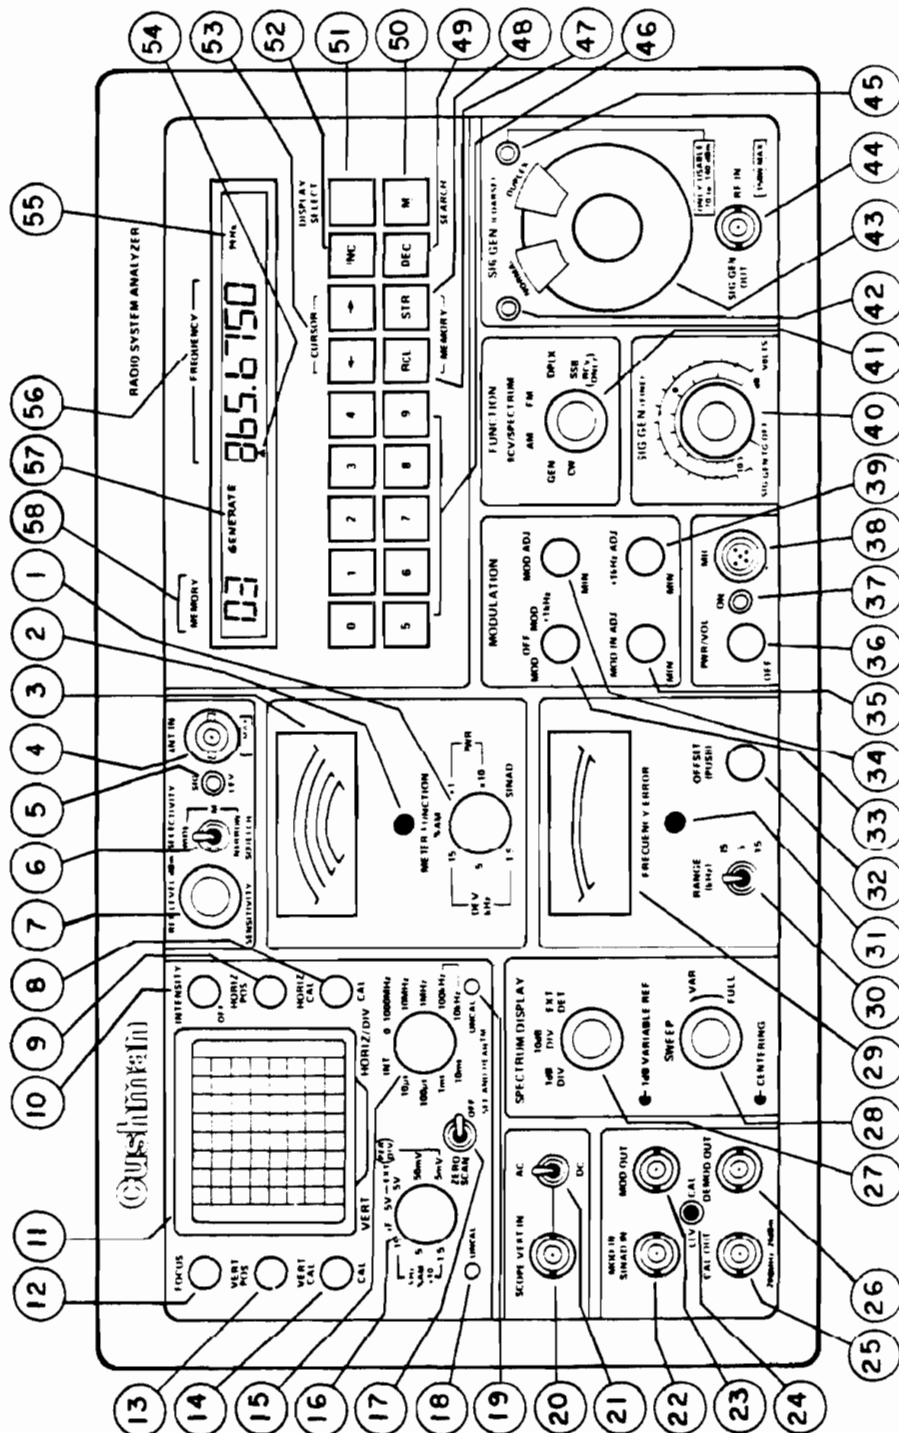
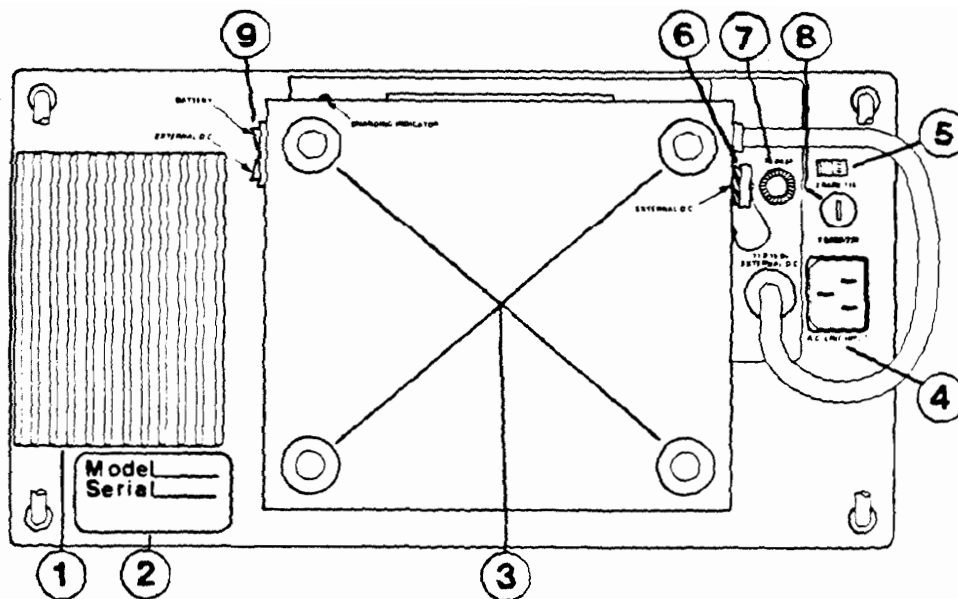

Figure 3-1. CE-6000 Series Front Panel Controls, Connectors, and Indicators
Figure 3-2. CE-6000 Series Rear Panel
3.01.1 Controls, connectors, and indicators of the CE-6000 Series equipment are shown in Figure 3-1 (Front Panel) and Figure 3-2 (Rear Panel). The functions of each are described in Tables 3-1 and 3-2.